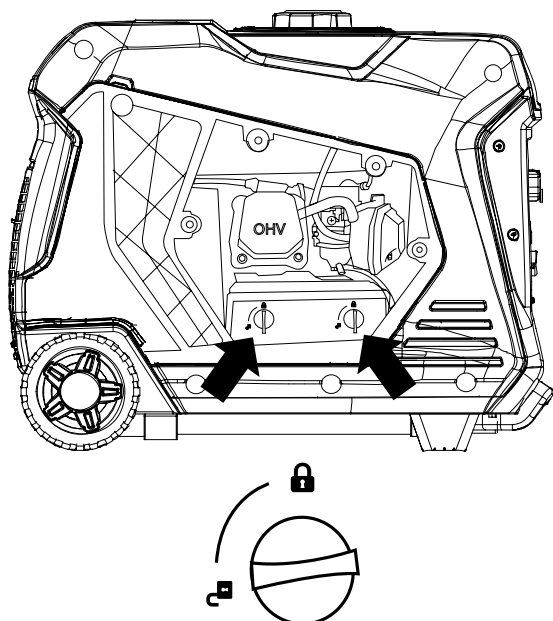

Figure 14: Unlock Air Filter Cover
3. Turn the 2 knobs on the air cleaner to unlock the cover. Tip the cover down to access the foam element (see Figure 14).